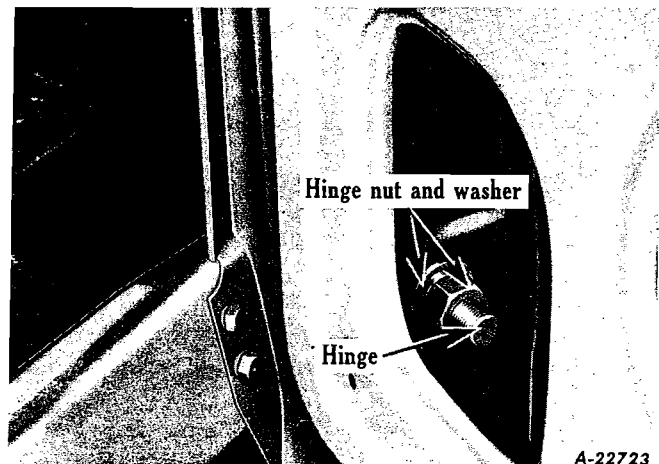

Fig. 46
3. Remove nuts and washers at upper and lower hinge assemblies from inside of door (Figs. 46 and 47).